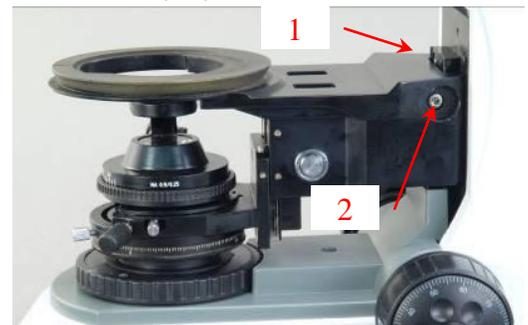

Fig. 4
- 2) Align the socket at the end of the condenser rack with the dovetail 1 (see Fig.4) on the frame and slide it all the way down.
- 3) Tighten the screw 2 (see Fig.4) with the Allen key provided